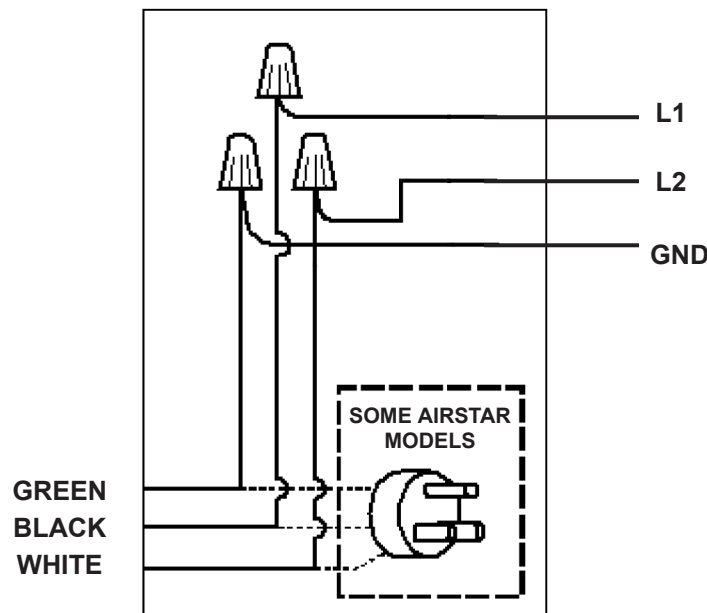

Figure 3. Electrical Connection Box
- If your **AIRSTAR** comes with open electrical connections, it must be wired directly in accordance with local electrical codes. (See Figure 3 below.)